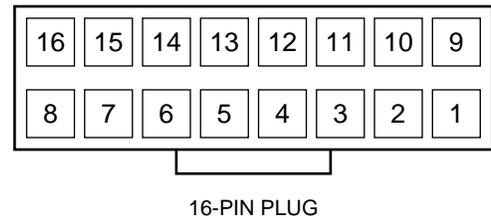

Fig. 19—Wiring Harness 16-Pin Plug
- Check for 24v between pin-1 and pin-12 on the 16-pin plug. (See Fig. 19.) If no voltage is present, replace wiring harness. If voltage is present, jumper screw terminal R-Y/Y2 on circuit board and check for 24v between pin-12 and pin-14 on 16-pin plug. (See Fig. 19.) If voltage is present, replace harness.